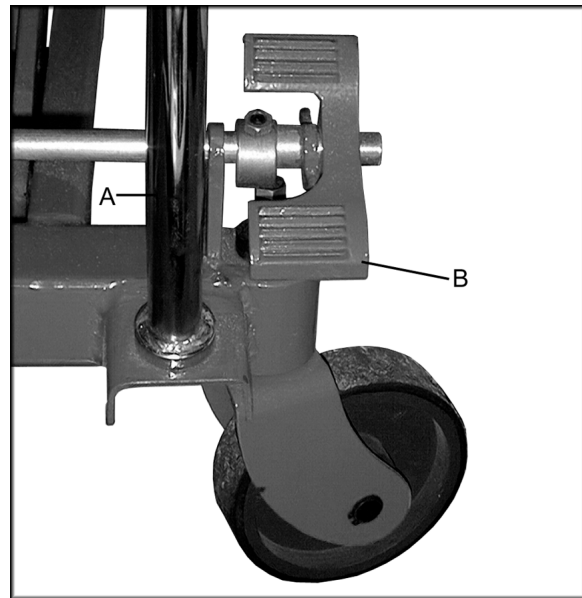
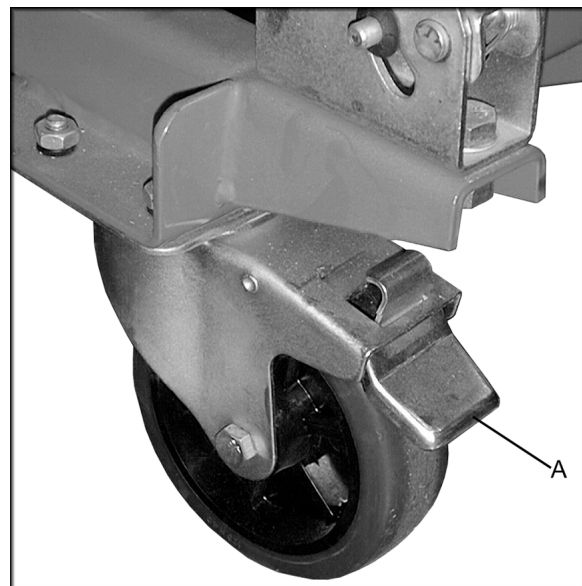

Figure 1
Figure 2
1. On the SLT-1650, attach the handle (A, Figure 1) to the frame using two hex cap screws, two lock washers, two flat washers. Tighten with a 19mm wrench.
NOTE: The two pivoting casters can be locked so that they do not rotate. Press foot lever (B, Figure 1 for SLT-1650) down to lock. Press foot lever (A, Figure 2 for SLT-660F) down to lock.